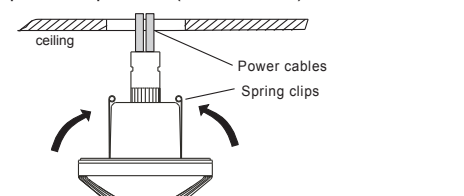

FIG.12
- 3.3.2.4 Insert sensor's two spring clips into the drilled hole, then push it upwards (See FIG.12).
3.3.3.4 Assemble the sensor with power box, then fix them with two screws (See FIG.12).